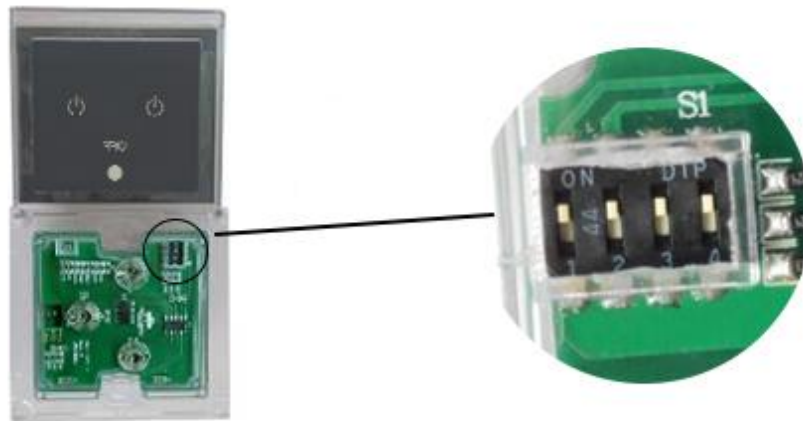

Fig. 5 Dip Switches for Activating Delay-off Time
- **Set up delay-off function:** Use a screwdriver to pry off the front plate to access the dip switches as shown in Fig.5. Switching the first two dip switches to on will set up each on/off button for delay-off operation respectively.